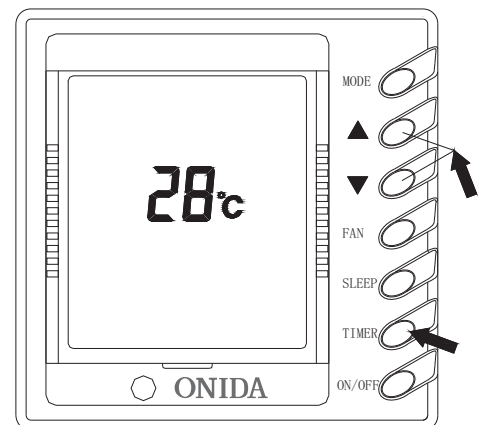

Fig.13
## 1) On/Off (Fig.13)
**NOTE:** Fig.13 shows the closedown status after power on. When the communication is normal, both at the running and stopping status will display the environment temp. Here, there is no “graticule line” on the LCD of Fig.14, it shows the unit is closedown..